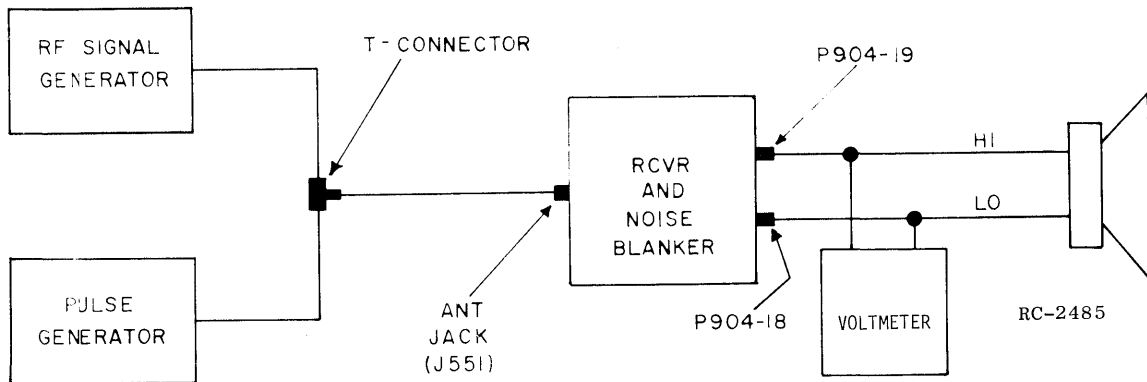

Figure 1 - Equipment Connection Diagram
- 1. Connect Pulse Generator and RF Signal Generator to DFE antenna jack (J551) through a T-Connector, and connect AC VTVM to receive audio output (Speaker LO, P904-18, Speaker HI, P904-19) as shown in Figure 1.